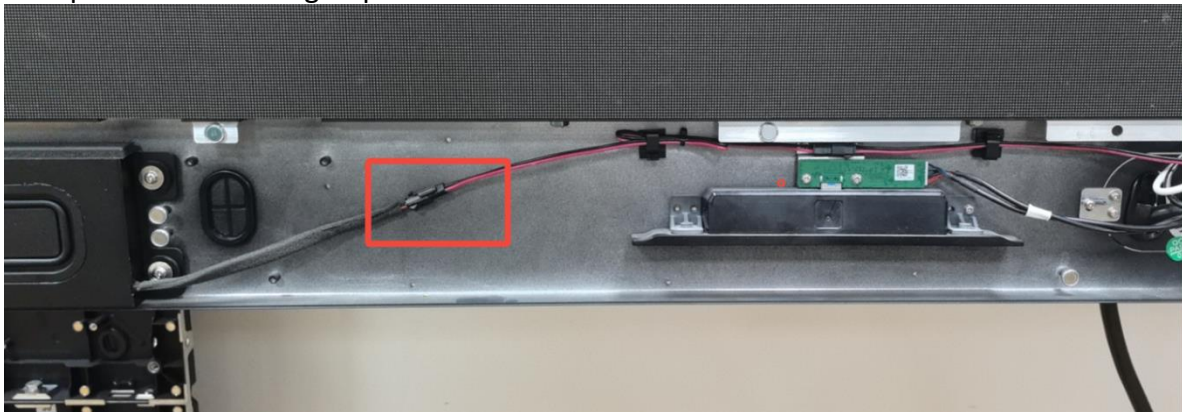
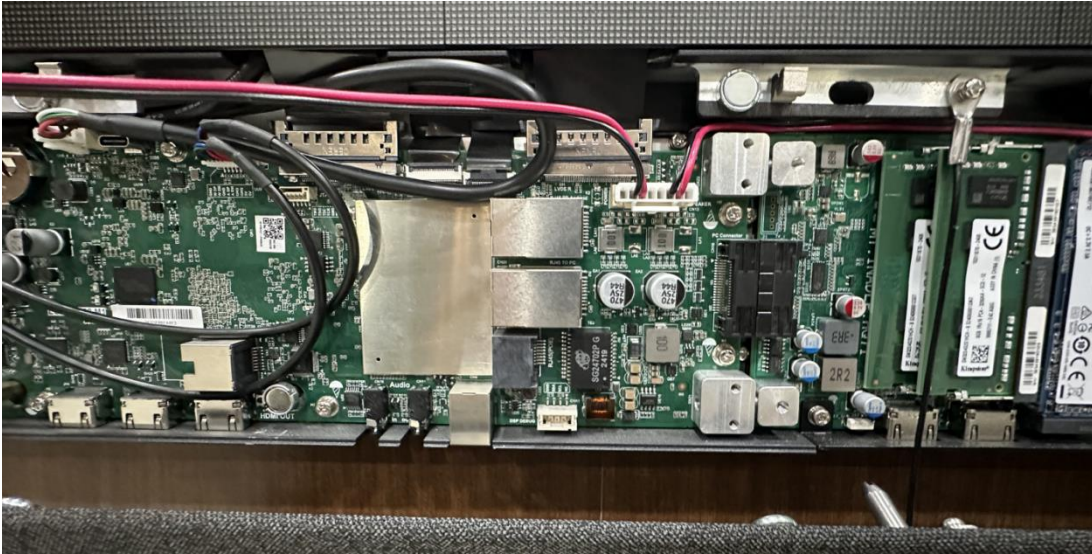

Figure 33
Figure 34
1) Connect the mainboard and speaker (see Figure 33). All mainboard cables have been pre-installed during shipment (see Figure 34)